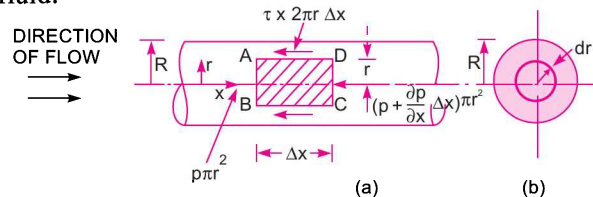

Fig. 9.1 Viscous flow through a pipe.
Consider a horizontal pipe of radius R . The viscous fluid is flowing from left to right in the pipe as shown in Fig. 9.1 (a). Consider a fluid element of radius r , sliding in a cylindrical fluid element of radius $(r + dr)$. Let the length of fluid element be Δx . If ' p ' is the intensity of pressure on the face AB , then the intensity of pressure on face CD will be $\left(p + \frac{\partial p}{\partial x} \Delta x\right)$. Then the forces acting on the fluid element are :
The average velocity, \bar{u} , is obtained by dividing the discharge of the fluid across the section by the area of the pipe (πR^2). The discharge (Q) across the section is obtained by considering the flow through a circular ring element of radius r and thickness dr as shown in Fig. 9.1 (b). The fluid flowing per second through this elementary ring